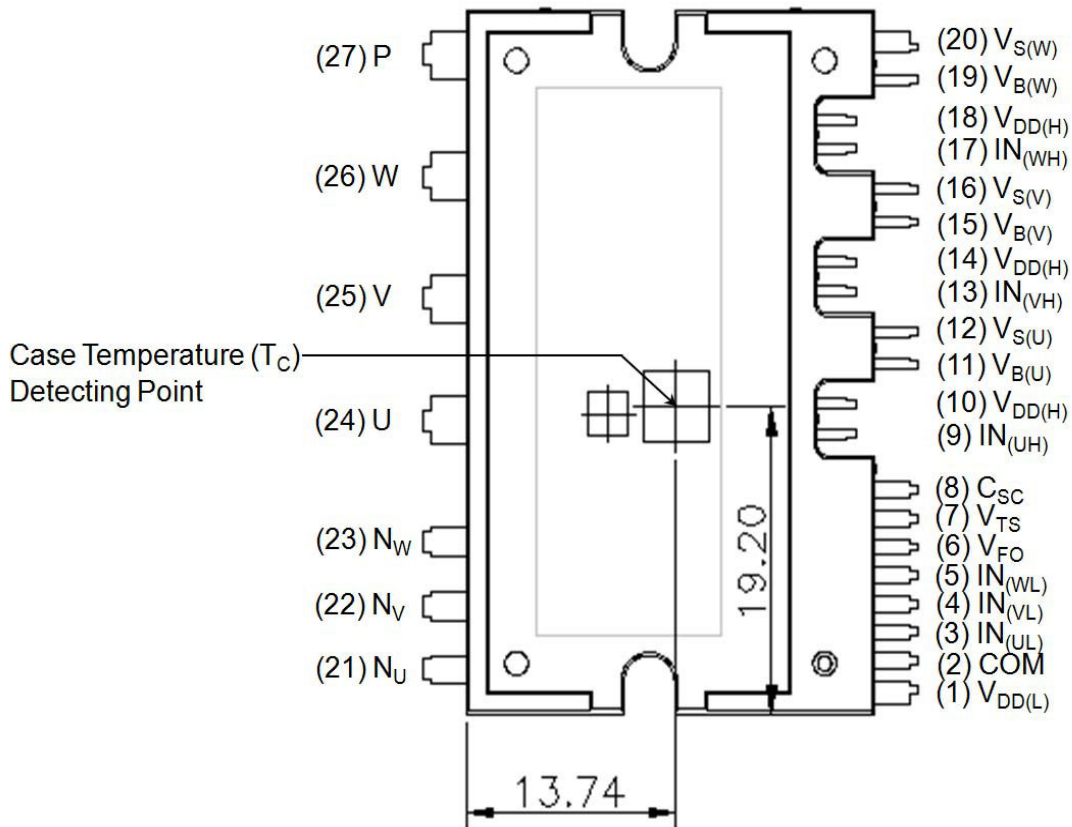

Figure 1. Top View
| T C        | Module Case Operation Temperature  | See Figure 1  | –40~125 | °C               |
5. For the measurement point of case temperature (TC), please refer to Figure 1.